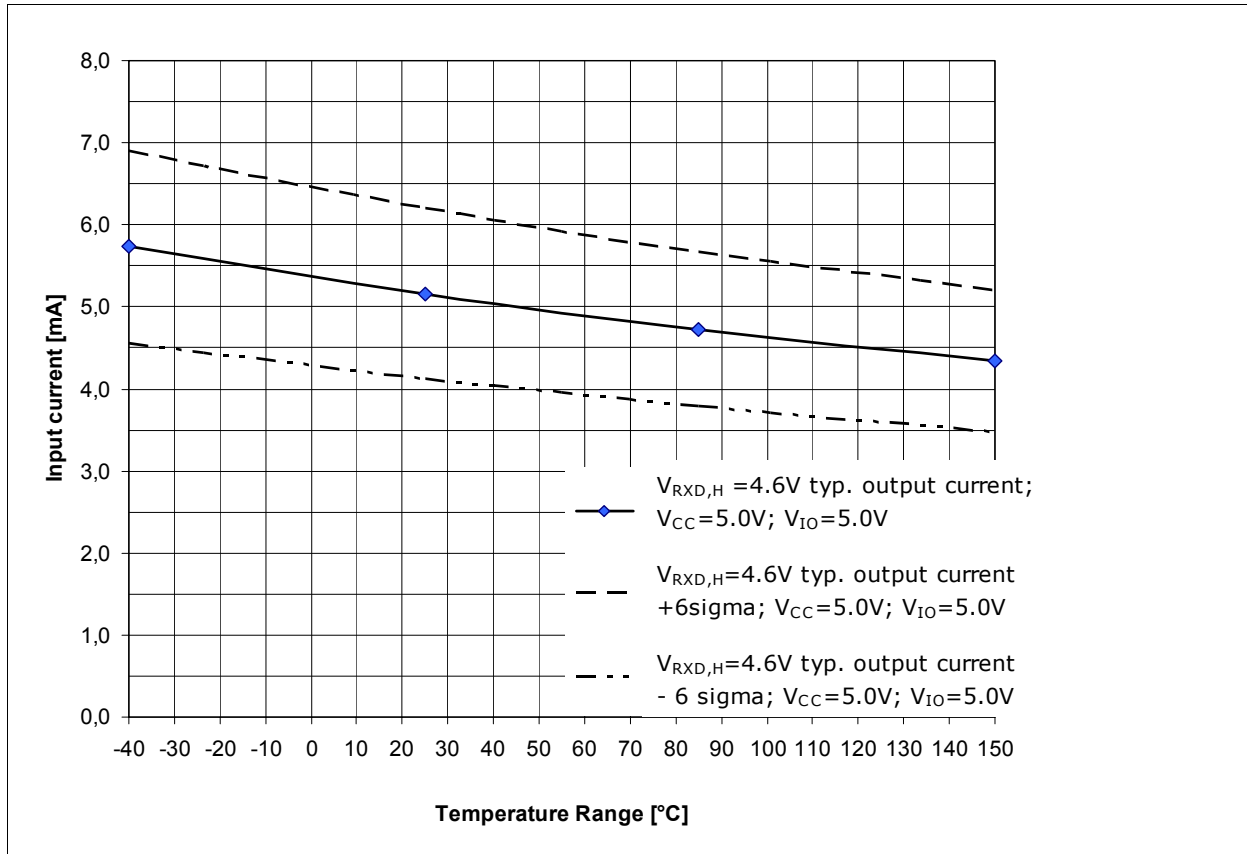
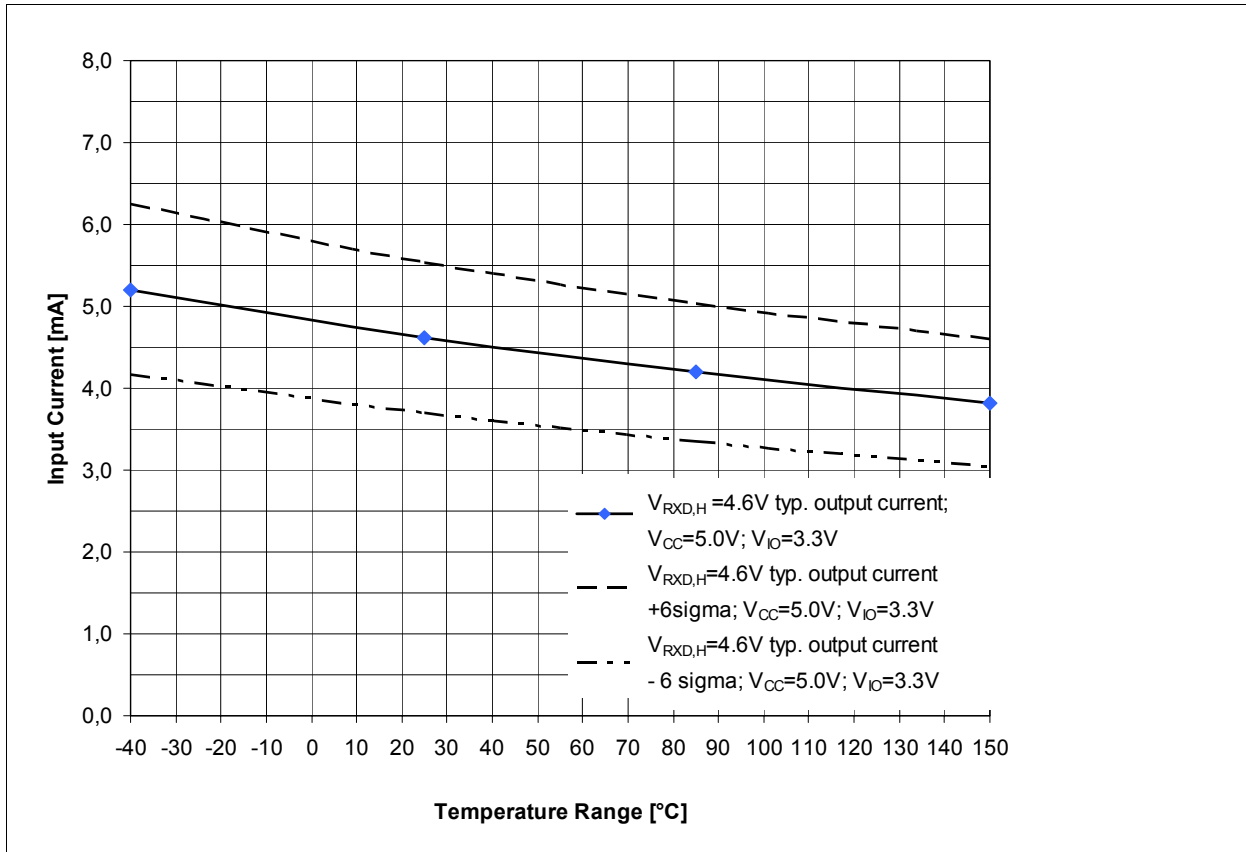

Figure 11 RxD Output driver capability for a logical “High” signal $V_{RxD,H}=4.6\text{ V}$, $V_{CC}=5.0\text{ V}$, $V_{IO}=5.0\text{ V}$ ¹⁾
Figure 12 RxD Output driver capability for a logical “High” signal $V_{RxD,H}=4.6\text{ V}$, $V_{CC}=5.0\text{ V}$, $V_{IO}=3.3\text{ V}^{(1)}$
The diagram in Figure 11 shows the output current capability of the RxD output pin depended on the chip temperature T_J at a V_{IO} power supply of 5.0 V. Figure 12 shows the output current capability of the RxD output pin at a V_{IO} power supply of 3.3 V.
- The curve “ $V_{RxD,H} = 4.6$ V; typical output current; $V_{CC} = 5.0$ V; $V_{IO} = 5.0$ V;” displays the typical output current at the RxD output pin of the TLE8250GVIO (see Figure 11).
- The curve “ $V_{RxD,H} = 4.6$ V; typical output current + 6 sigma; $V_{CC} = 5.0$ V; $V_{IO} = 5.0$ V;” displays the expected maximum value of the output current at the RxD output pin (see Figure 11).
- The curve “ $V_{RxD,H} = 4.6$ V; typical output current - 6 sigma; $V_{CC} = 5.0$ V; $V_{IO} = 5.0$ V;” displays the expected minimum value of the output current at the RxD output pin (see Figure 11).
- The curve “ $V_{RxD,H} = 4.6$ V; typical output current; $V_{CC} = 5.0$ V; $V_{IO} = 3.3$ V;” displays the typical output current at the RxD output pin of the TLE8250GVIO (see Figure 12).
- The curve “ $V_{RxD,H} = 4.6$ V; typical output current + 6 sigma; $V_{CC} = 5.0$ V; $V_{IO} = 3.3$ V;” displays the expected maximum value of the output current at the RxD output pin (see Figure 12).
- The curve “ $V_{RxD,H} = 4.6$ V; typical output current - 6 sigma; $V_{CC} = 5.0$ V; $V_{IO} = 3.3$ V;” displays the expected minimum value of the output current at the RxD output pin (see Figure 12).